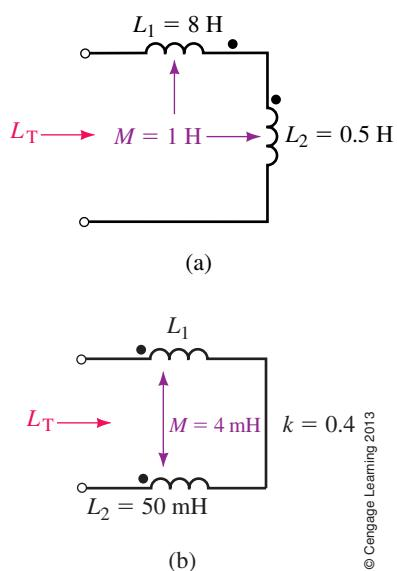

FIGURE 23-79
- 34. For each circuit of Figure 23-79, determine L_T .